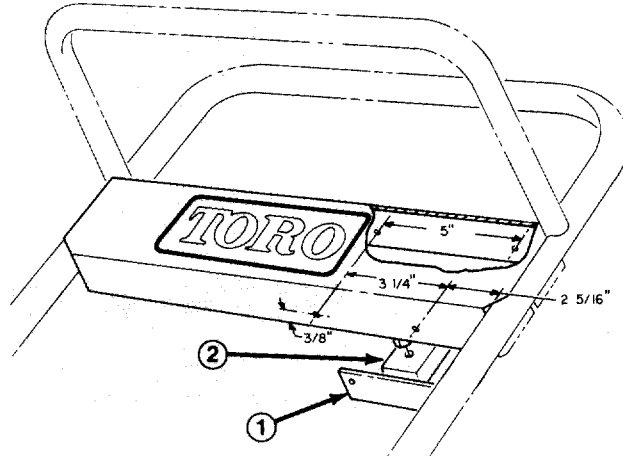

Figure 3
24. Using panel bottom as a template and dimensions in Fig. 3, locate and drill (4) $5/32$ " (.156) dia. holes in front and back of control panel.